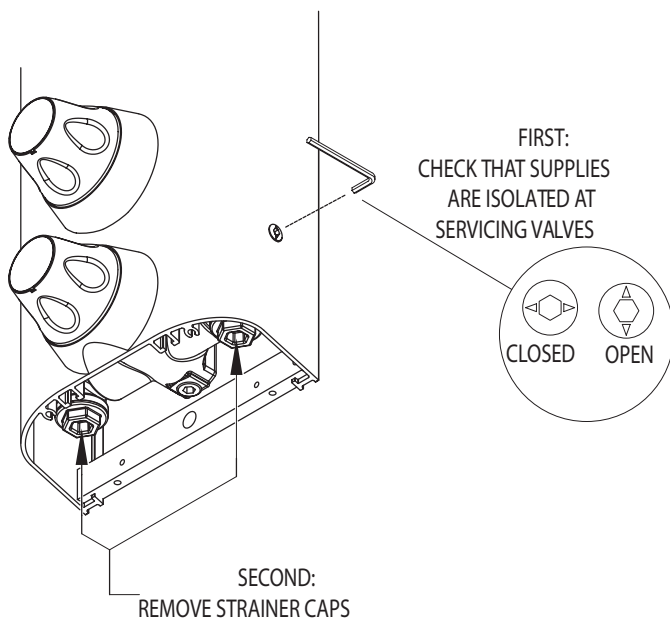

Fig.5
Flush out the pipework in accordance with Water Bylaws 2014 (Scotland) and BS EN 806. The use of a Horne flushing kit is strongly recommended, because this connects directly to the water inlets to the mixing valve. See Figs. 5 and 6.
Access to the flushing points is gained from underneath the casing through the lower end cap. Isolate the water using the low-level servicing valves located on the side of the panel (Fig. 5) using a 4mm hex key. Remove the strainer cap with the strainer basket and screw in the flushing adapter. Place the end of the flushing hose in a drain or container and turn on the supply to flush **AT FULL BORE** until any pipework which has been worked on is cleared. After flushing, remove the flushing adapter and replace the strainer cap. Repeat for both hot and cold supplies. See Fig. 5 and 6.
Ensure that the TSV1-3 on/off control is closed (turned fully clockwise) and open the supplies. Open the servicing valves on the TSV1 casing (See Fig. 5). Open the supplies to the panel, adjust the temperature control and check for any water leaks upstream of the thermostatic valve. Make good any leaks found. The valve is now ready for commissioning.
- 2.5.1 Finally, check the thermal shut-off facility of the TSV1-3 by performing a Cold Isolation Test (sometimes colloquially called a “fail-safe” test) as follows. With the shower running full, close the cold (i.e. right side) servicing valve. [The Servicing Valve is closed when the arrows are in the horizontal position, and open when they are in the vertical position: see Fig. 5]. If there is any flow after 5 seconds, this must amount to no more than 120ml in 60 seconds of collecting. If there is more than this amount, find possible corrective actions in the “Maintenance” section below. If the Cold Isolation Test is satisfactory, restore the supply and note the final stabilised temperature in the commissioning log. This should be within 2°C of the original temperature, and must not exceed 43°C. Generally, the mixed water temperature should not rise by more than 2.9°C during this cold-water isolation test. Record the result of this on the attached commissioning sheet.